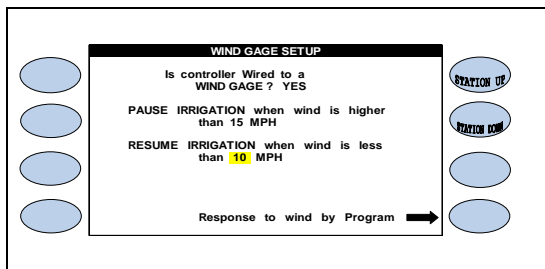

Figure 5.17
4.  Press the **PLUS** or **MINUS** keys (Figure 5.17).
To set the Miles Per Hour that you want the controller to resume irrigation at, (Figure 5.17).
- Use the **PLUS** or **MINUS** keys to change the speed (Figure 5.17).